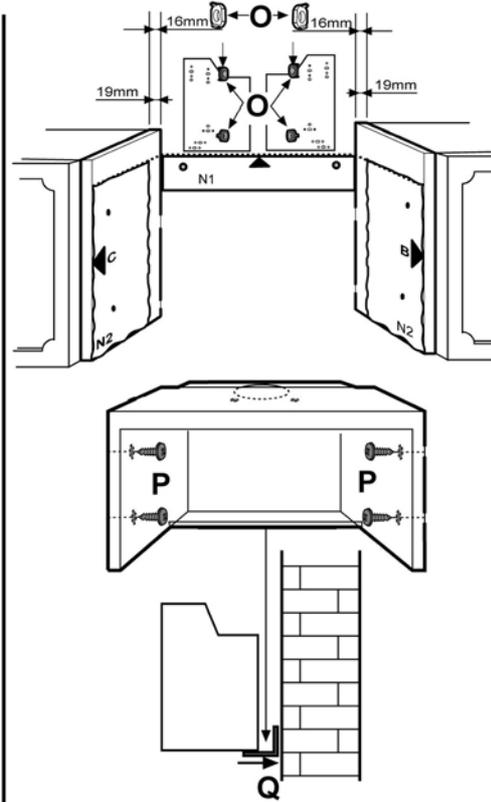

Fig. 8
- a. Use perforation diagram N2 (\*). Position the diagram on the front edges of the wall unit (right wall unit, B side) – (left wall unit, C side) WITHOUT CONSIDERING THE THICKNESS OF THE DOORS, and make the holes as indicated. Fig. 8
- d. In case the thickness of the lateral wall units is 16mm, put, with embedded fixing, the O (\*) spacers at the sides of the hood in correspondence with the holes used for the passage of the fixing screws to the lateral wall units. Fig. 8.
- f. Fix the hood to the lateral wall units with 4 screws P. Fig. 8